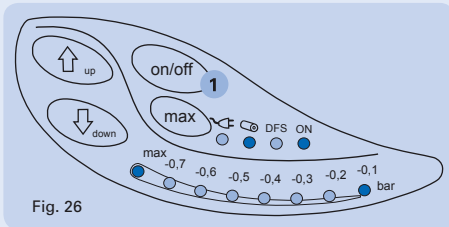

Fig. 26
1. Switch the device on by pressing the ON/OFF button (fig. 26 (1)). The ON LED signals that the pump is switched on by illuminating green.